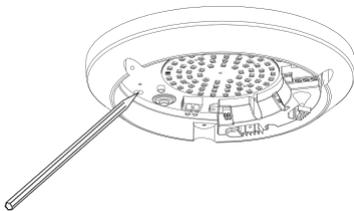

Fig.2
- Step2 Put the base of the product on the ceiling to make the drilling mark (as Fig.2)